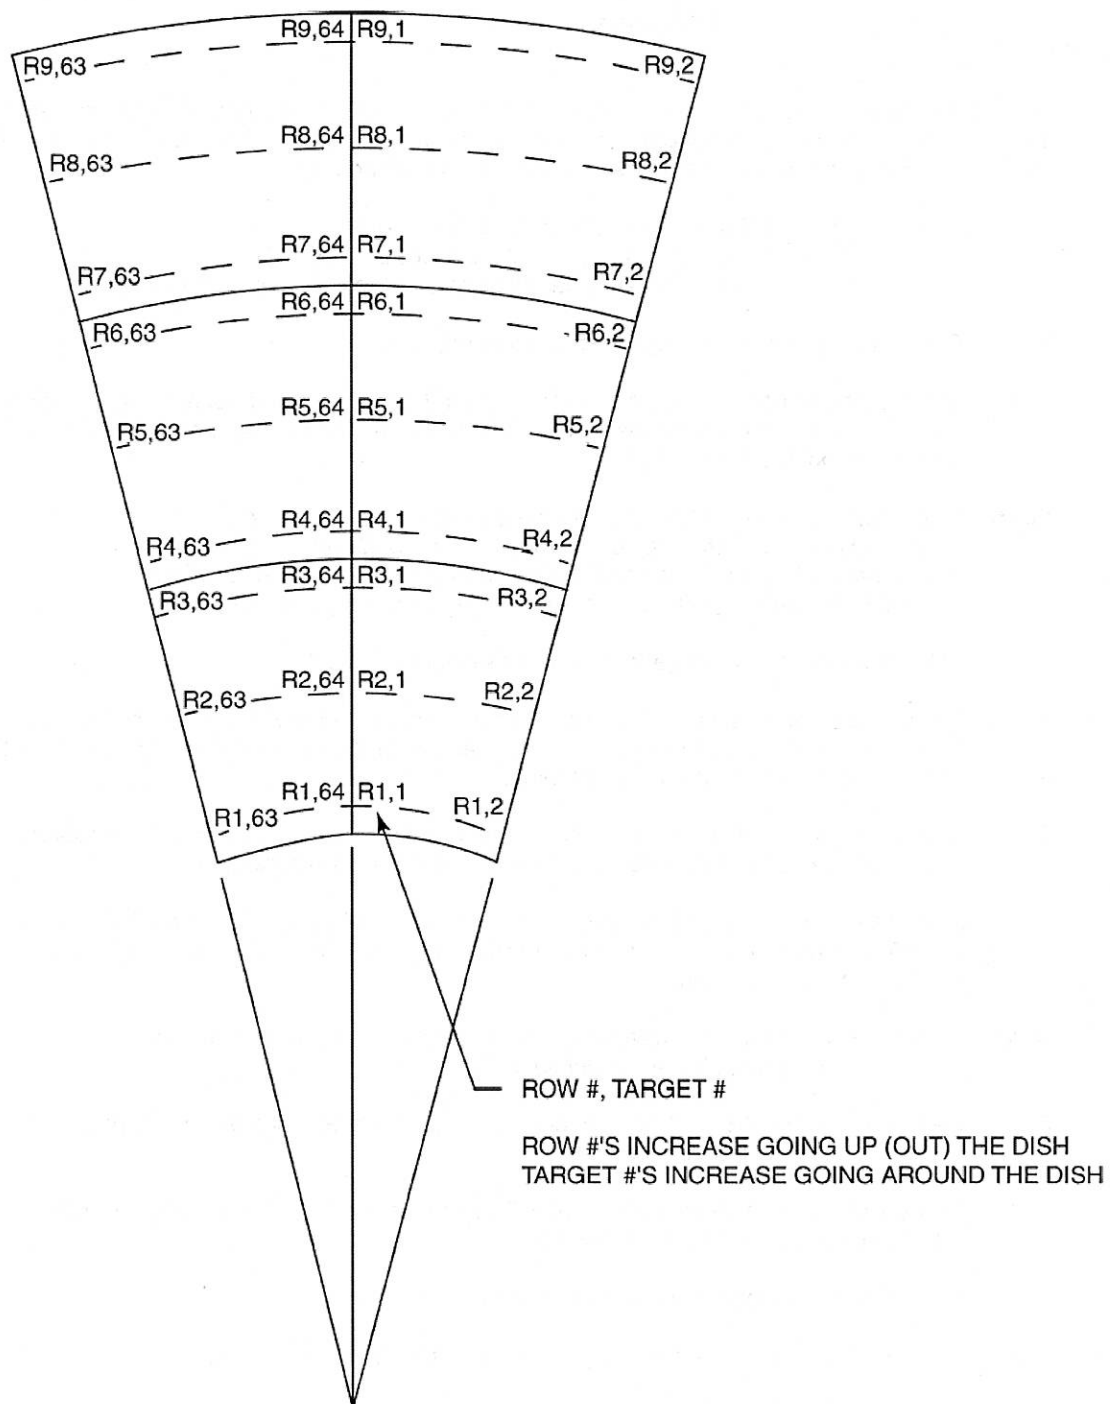

Figure 1. Panel -Target Numbering Sequence
- 5.6.5 When the panel contour has been properly aligned, a final survey shall be conducted to verify the contour alignment. Set the theodolite to the theoretical datum target setting. View each target and record (in RMS data work sheet) the vertical up or down distance from the center of the target. Numbering of targets shall be as defined as in figure 1.